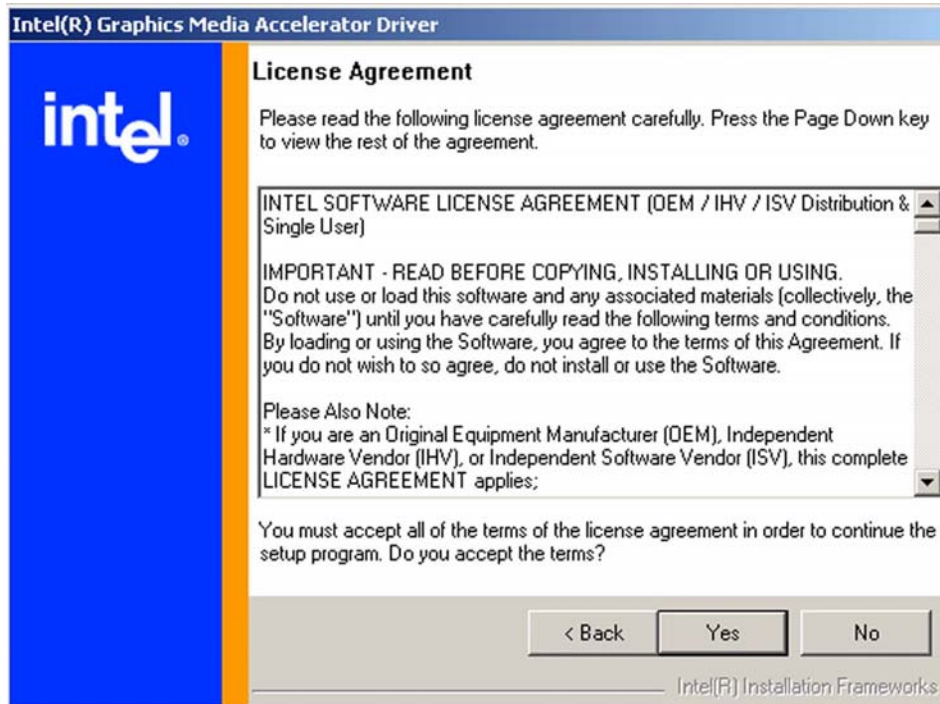

Figure 6-8: Intel® Graphics Media Accelerator Driver License Agreement
Step 3: Click **NEXT** and a license agreement appears (**Figure 6-8**).